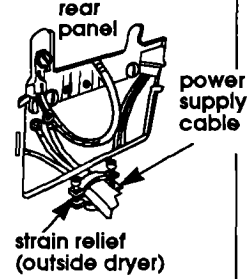

Figure 20
4. Attach 3/4" U.L.-listed strain relief (U.L. marking on strain relief) to the hole below terminal block opening (see Figure 20). Tighten strain relief firmly to cabinet so it is in a horizontal position. Place direct wire cable through the strain relief.